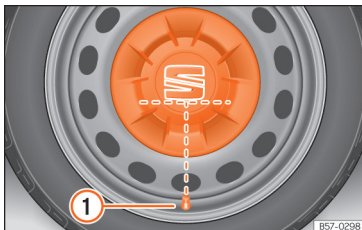

Fig. 74 Correct positioning of the central wheel trim for steel rims.
- Fit the central wheel trim onto the rim. The bottom of the "S" of the SEAT badge should align with the inflation valve » » » Fig. 74 ①.